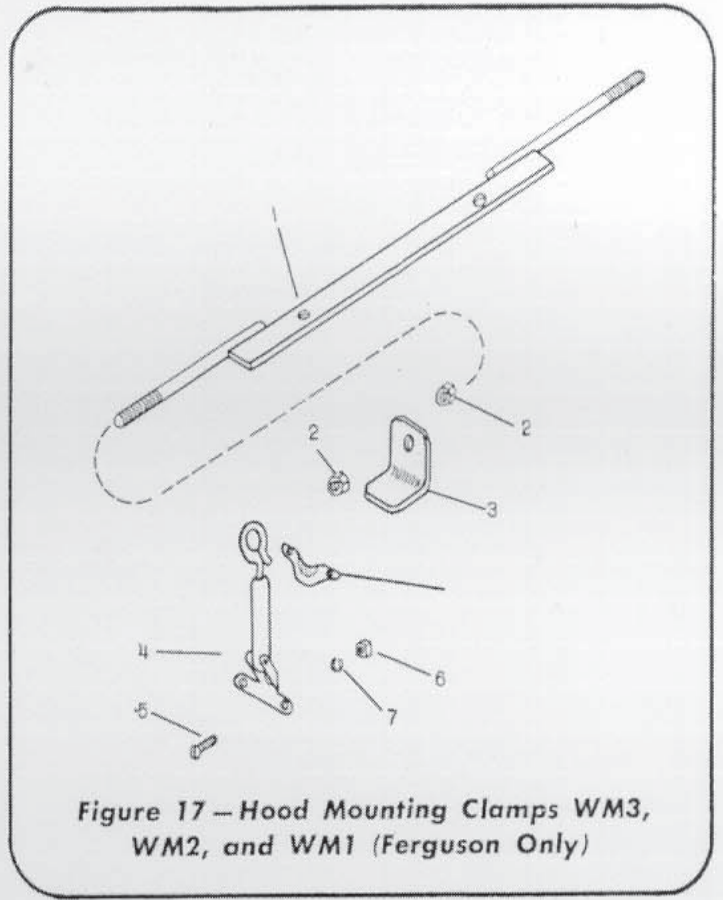

Figure 17—Hood Mounting Clamps WM3, WM2, and WM1 (Ferguson Only)
**Hood Mounting Clamps WM3, WM2 and WM1 (Ferguson Only) (Fig. 17)**